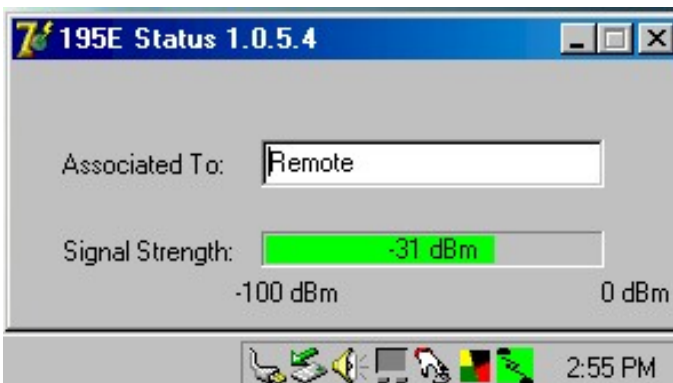

Figure 8: EtherStation Status Program
4. Connect the Model 195E to your computer either directly to the Ethernet card or through a Switch using a CAT-5e Ethernet cable. The Ethernet port on the 195E supports Auto-Negotiation so either a patch cable or crossover cable will work. Open the ESTeem Status Program. Status icons will appear in your system tray (Figure 8). When the status menu is opened from the system tray, the status window will be displayed (Figure 8) to show the Access Point MAC address and signal strength. The tray icon and Signal Strength bar will display the colors from Green, Yellow to Red on progressively poorer signal or will show Grey if roaming.